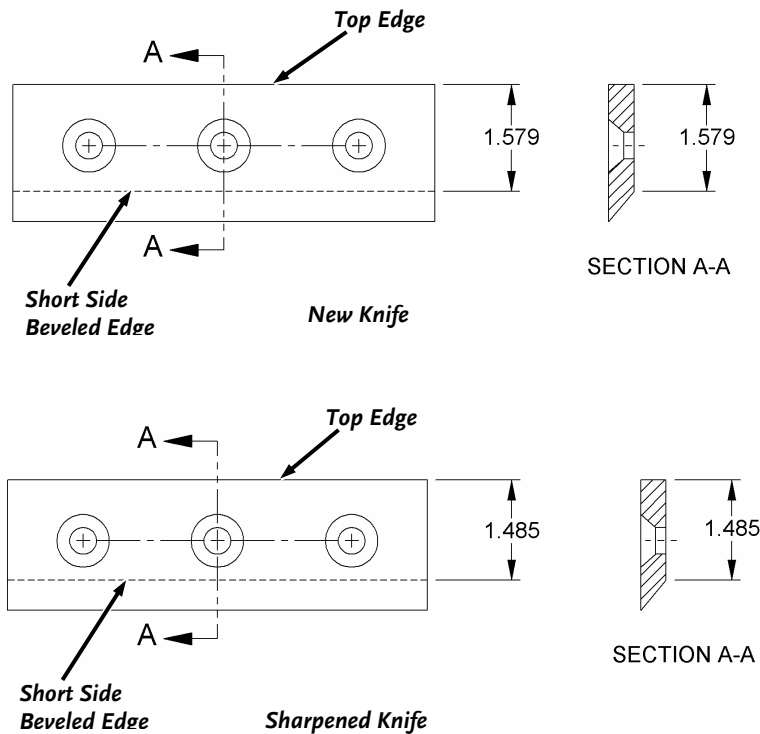

Figure 43
- A new Chipper Knife has 1.579" measurement between the short side bevel edge and the Knife Top Edge (**Figure 43 "New Knife"**).
- Once this measurement is below 1.485" (see **Figure 43 "Sharpened Knife"**), or if you are unable to remove dents or gouges with these guidelines, replace the Knife.